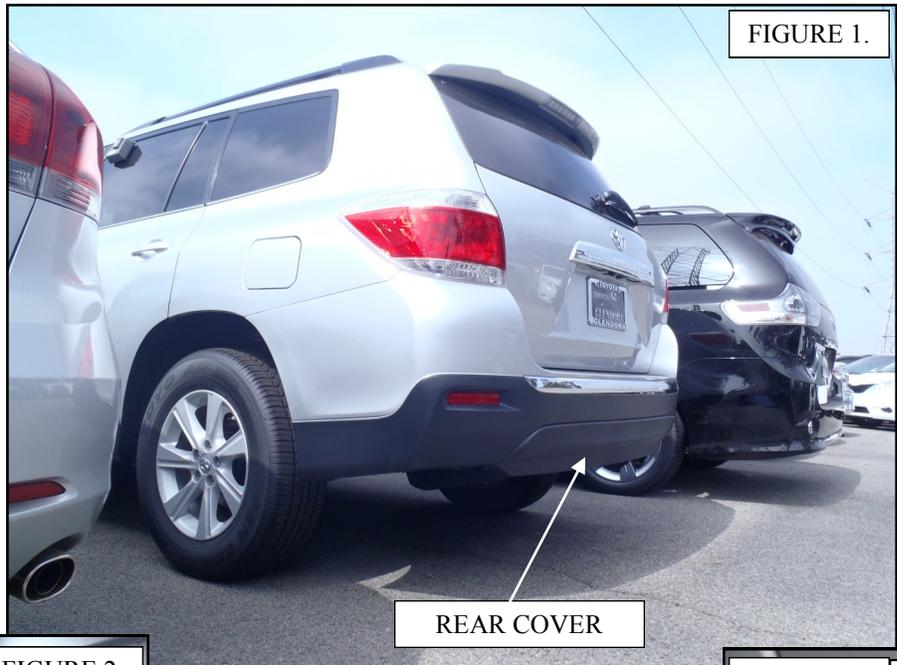

FIGURE 1.
4. The lower trim panel located on the rear bumper cover also needs to be removed. To accomplish this, depress the retainer on the two blue plastic retainer clips. The remainder of the panel snaps off. This will be re-installed with minor trimming. *FIGURE 1,4*